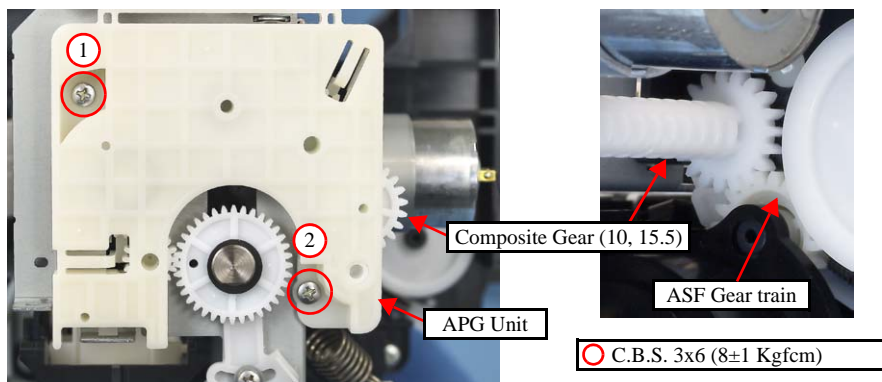

Figure 4-75. Removing the APG Unit
6. Tighten the screws (x2) in the order given in Fig. 4-75 to install the APG Unit.